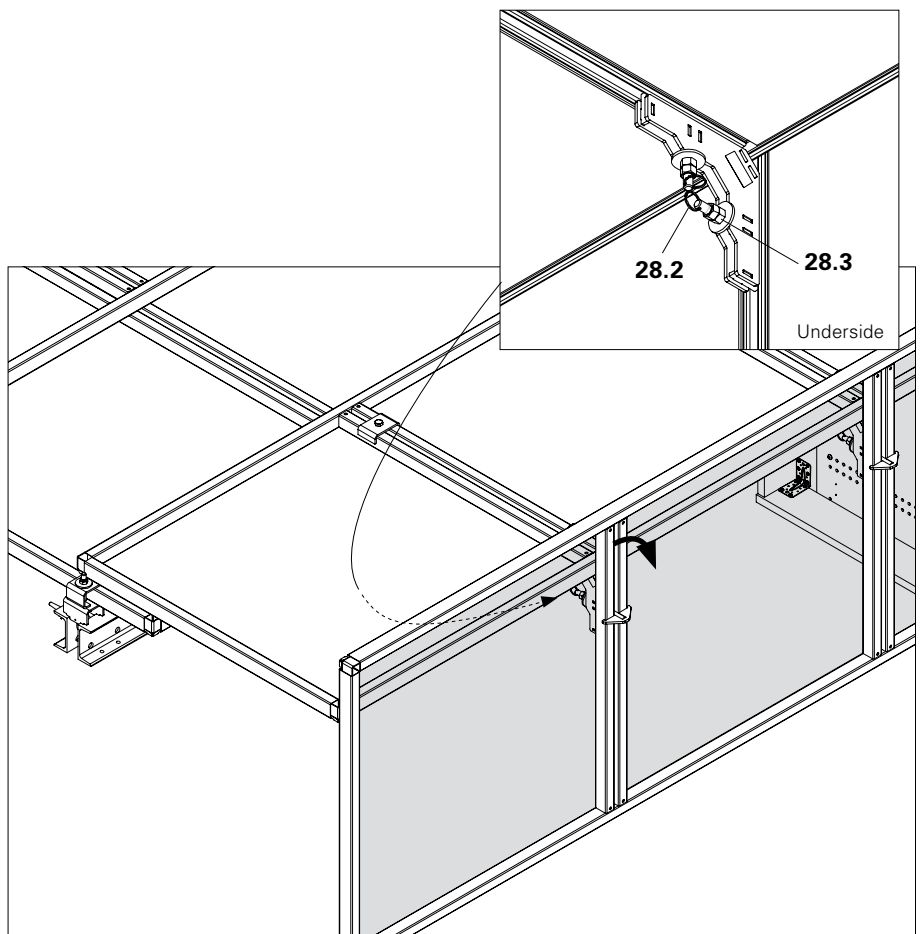

Fig. C2.07
6. Tighten Screen Anchor Plate with Nut M16 (28.3) and secure with lock nut. (Fig. C2.07)